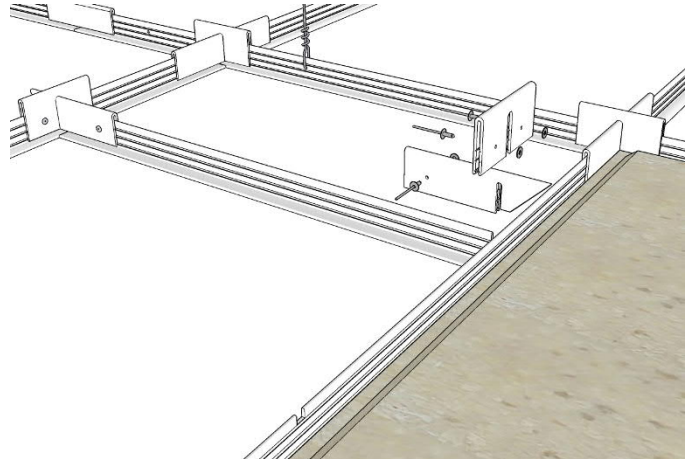

FIG. 15
1. When intersecting **Rails** are to be at locations where there is **No Locating Notch** and there is an intersecting obstacle, assemble the **Rail** to the **Rail** (**Mainrail** or **Crossrail** in either case) using an **Offset Clamp** (**Offset Junction**). The use of an **Overlock Clamp** at the **Offset Junction** helps to assure a positive connection. The **Overlock Clamp** snaps to the **Rail**. Since the **Offset Clamps** can be located anywhere on the rail it doesn't have the locking ability of the **Locating Notch**. They will need to be secured with **Lock Rivets** and **Backup Washers** to maintain trueness. These **Offset Junctions** occur anywhere on a rail where this is no **Locating Notch**. FIG. 15